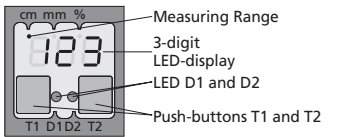

Fig. 3: TouchControl LED display
- Set the parameters of the sensor manually via TouchControl (see Fig. 3 and Diagram 1)